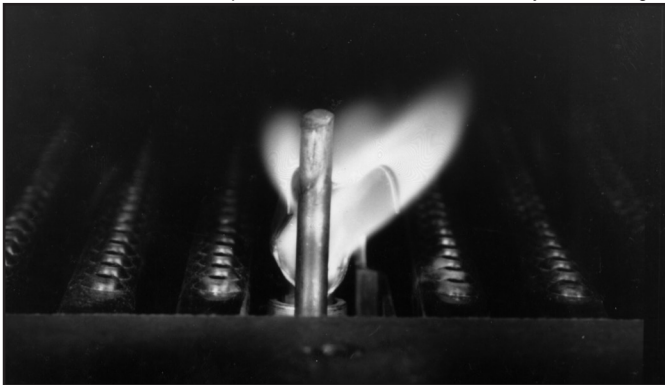

Figure 7. — Pilot Flame Pattern (Standard Burner)
**A. BURNERS** — Visually inspect the main burner flame and the pilot flame at least every three months. Refer to Figures 7, 8, 9, or 10 for normal flame pattern. Fallen scale can usually be dislodged